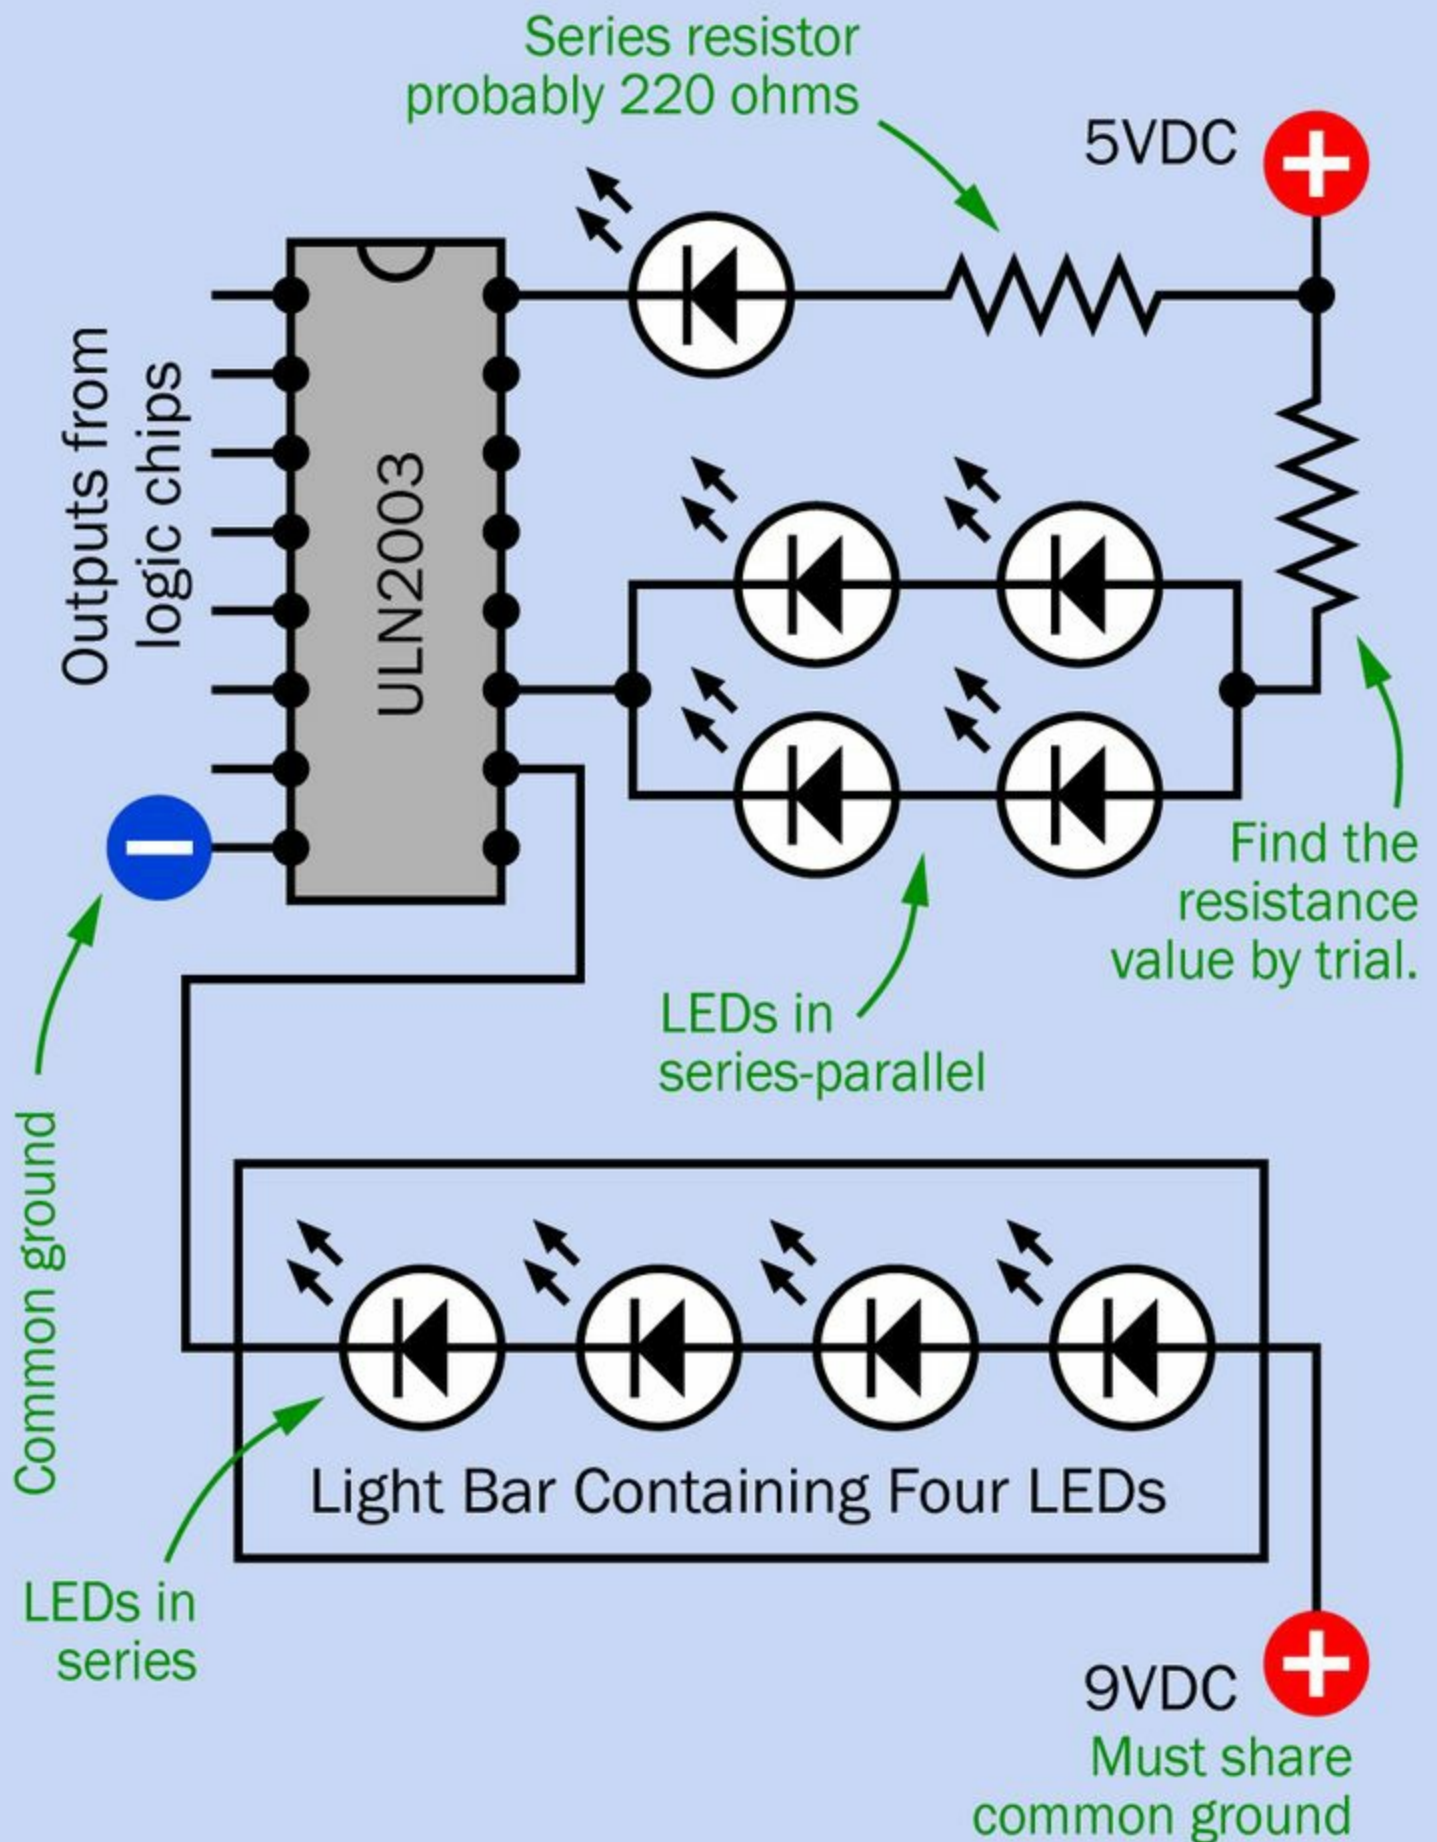

Figure 28-10. Three different options to wire LEDs with a Darlington array.
Some sample schematics illustrating three different ways to wire LEDs with a Darlington array are shown in Figure 28-10.
- Connect the four outside LEDs in each slice of the hexagrams in series-parallel, which is the middle configuration shown in **Figure 28-10**.